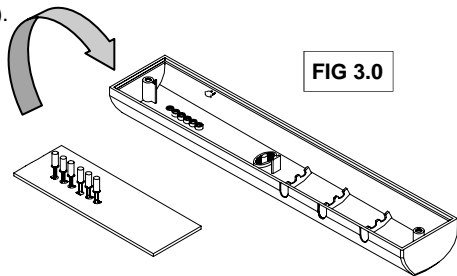

FIG 3.0
3. Flip the PCB and guide all LEDs through their holes (fig 3.0).